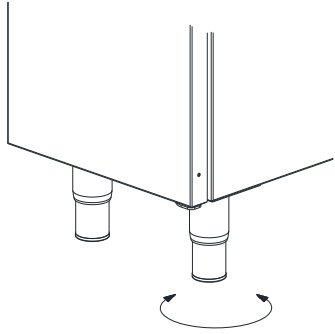

Figure 1
- Device should be placed on a flat surface by suitably balancing on the four adjustable legs. (Figure 1)